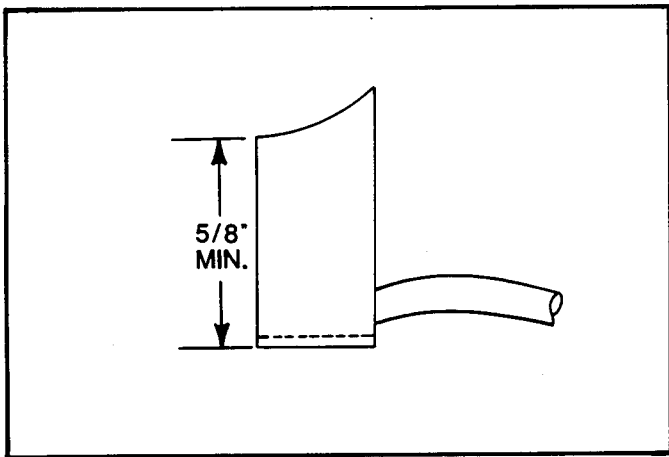

FIG. L-4 MINIMUM BRUSH LENGTH
- b. Check each brush for free movement in its holder and examine it for wear and general condition. If brush is broken, cracked, severely chipped, or worn to a length of less than 5/8 inch measured on the short side of the brush, replace it (Fig. L-4). Whenever any brushes are replaced, it is good practice to replace all of them. Keep extra brushes on hand.